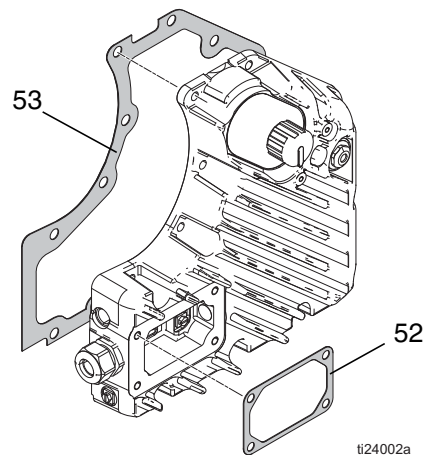

FIG. 25: Electronics Cover and Junction Box Gaskets
1. Install the new cover gasket (included in the electronics cover kit). See FIG. 25, page 16.